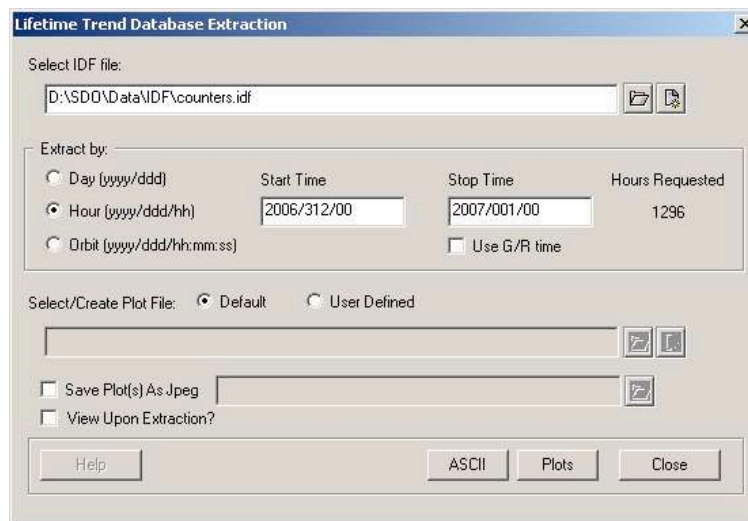

Figure 57: LTT Database Extraction Window
- Type the file name of an existing IDF or click the file folder icon  to select an Input Definition File (IDF) on the Request Editor screen (see Figure 57).
- Mark the View Upon Extraction check box to automatically activate the display of the generated product upon completion of the extraction *Figure 57*.